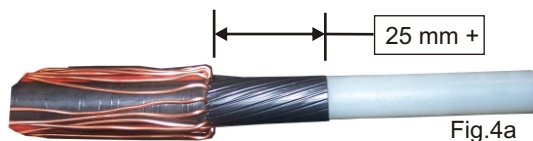

Fig.4a
- The standard operation of the WS76 noted previously will shave the semi-con screen up to 25mm (1") from the stripped jacket. (Fig.4a)